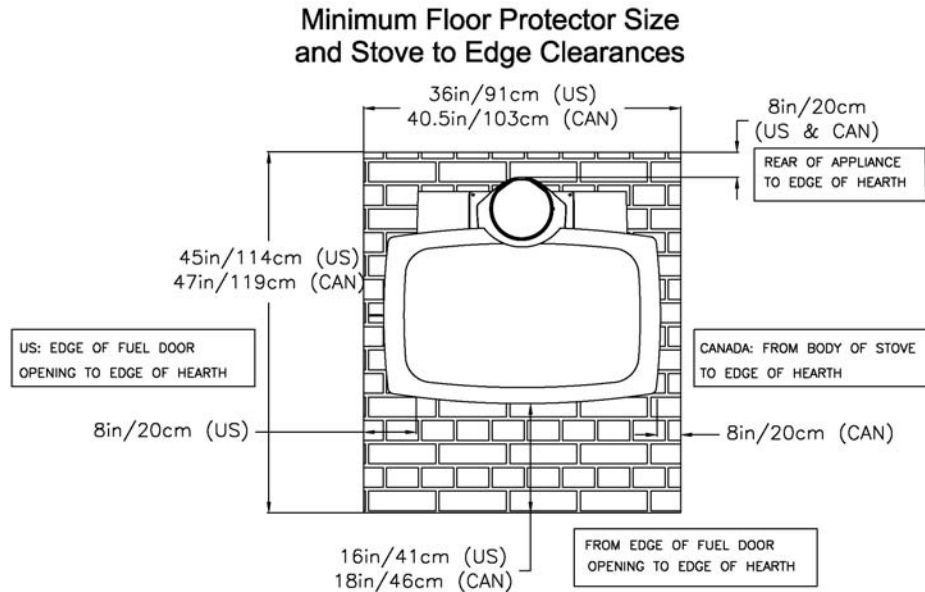

Figure 2 – 8371 Hearth Pad Dimensions
- 🔥 A floor protector with an R-value of 0.8 or more purchased from your dealer. A floor protector is any noncombustible surface laid on the combustible floor underneath the stove that extends 16 inches (US) and 18 inches (CA) beyond the fuel door opening, and 8 inches (203 mm) beyond each edge of the fuel loading opening (US) or from the body of the stove (CA), and 8 inches to the rear. See figure 2 on page 9.